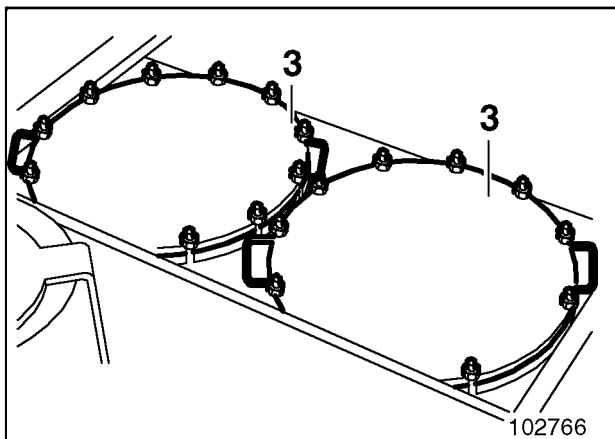
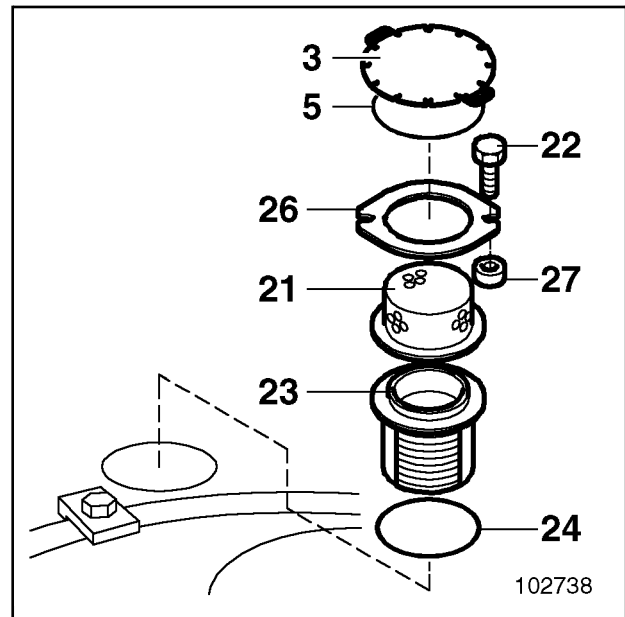

Fig. 13
Fig. 14
- Remove cover (3, Fig. 13 and/or Fig. 14) together with sealing ring (5, Fig. 14).
- Unscrew screws (22).
- Remove holder (26) and screen (21).
- Clean screen (21) in white spirit or paraffin oil, or replace if necessary.
- Remove bypass valve (23) together with sealing ring (24).
- Re-insert bypass valve (23) with sealing ring (24).
- Fasten screen (21) with holder (26).
- Install cover (3, Fig. 13) together with sealing ring (5).